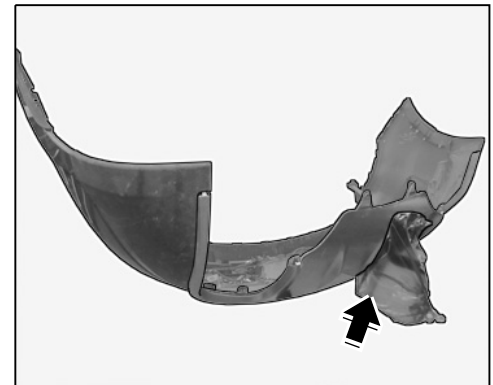

Figure 10
- 2.9 Pull film ⇒ *Figure 10 -arrow-* off the stainless steel rear trim and clean the stainless steel rear trim with isopropanol (commercially available).